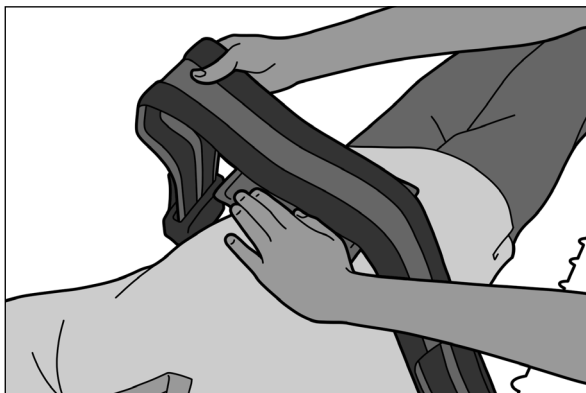

Fig. 9
6. Lay belt over patient, ensuring number side is facing down, attaching it to paddle and bladder. Ensure the loop on the belt aligns and engages with the hook on the bladder (Fig. 9).